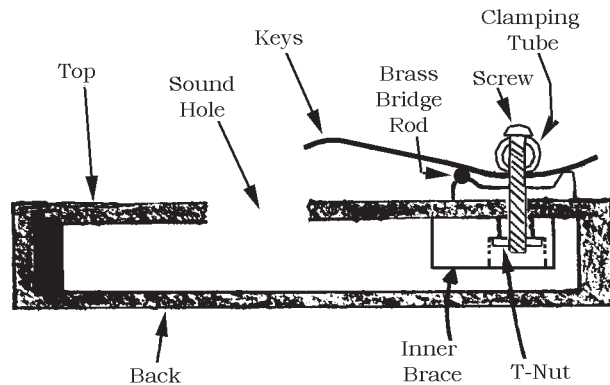

FIG. 16
- ___16. Slide the KEYS under the BRASS TUBE tube, with the longest ones in the middle and the shortest ones toward each side. NOTE: One end of each key is bent downward, and that's the end you will pluck. It should be pointing toward the sound hole. (fig. 16)